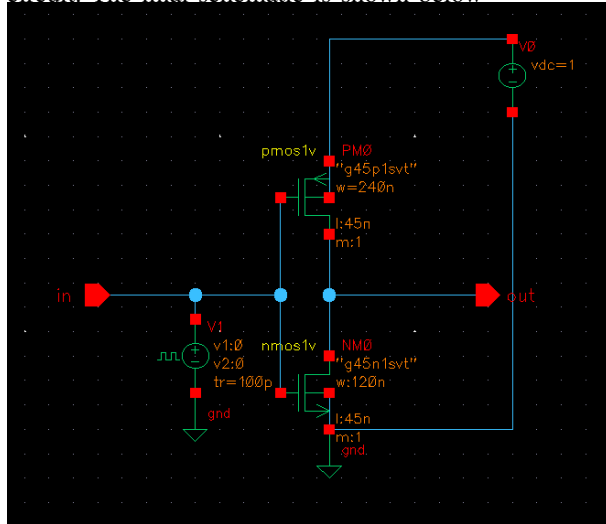

figure 1: Schematic
1) *Delay calculation at different temperature:* In every CMOS inverter circuit there is parasitic capacitance due to which delay come into picture.Which play important role in the analysis of CMOS inverter.Here we are going to calculate delay of CMOS inverter circuit with the help calcula tor tools present in cadence tools.As the capacitance increases delay will also increases. For the calculation of Delay,Rise Time and Fall Time we will calculate from above figure 1 shown i.e. transient analysis of CMOS circuit. Calculator can be used to calculate many different parameter follow the following steps to calculate. Click on Tools and then Calculator "Virtuoso Visualization and Analysis XL calculator" window will open.